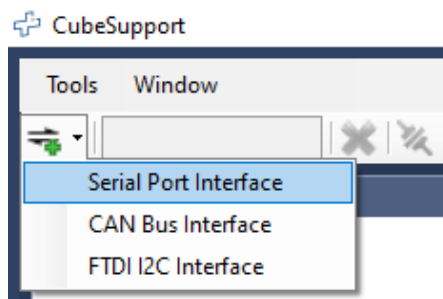
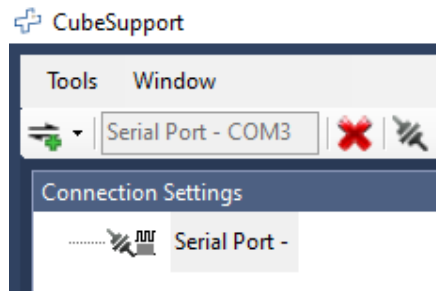
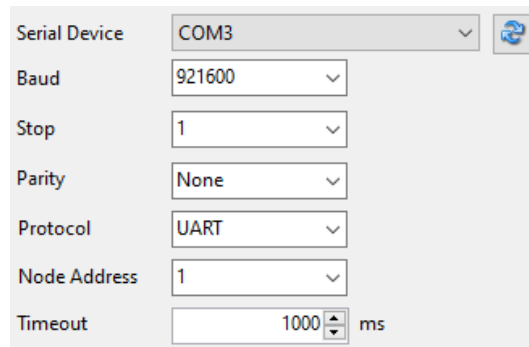

Figure 34: Connection dropdown
Figure 35: UART interface selected
Figure 36: Default UART settings
- 4) Click on the dropdown arrow next to the  icon (top left) in the CubeSupport application and select UART Interface, as shown in Figure 34 and Figure 35. Ensure the correct Serial Device is used (for UART communications, it is the supplied TTL232R-3V3 device). There should be no need to change the default connection settings shown in Figure 36, unless the client specifically requested a different UART configuration.